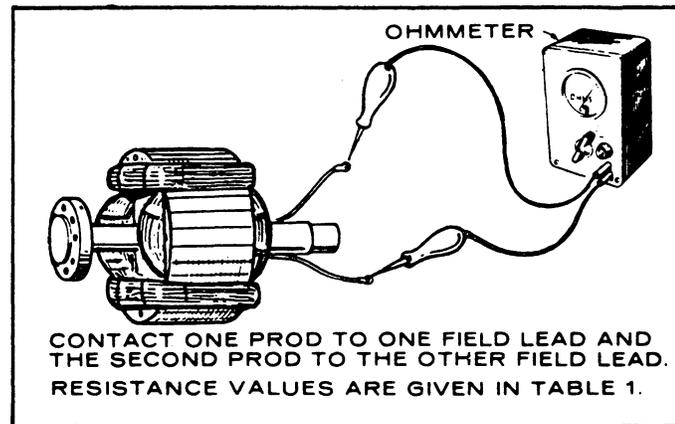

FIGURE 19. TESTING ROTOR FOR AN OPEN CIRCUIT
**Testing for an Open Circuit:** disconnect and test between F1 and F2 leads as shown in Figure 19. Replace the rotor if it is grounded or has an open or short.